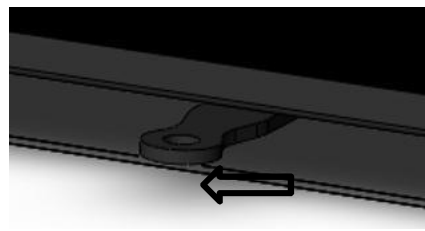

Fig. 6. Closed/Reduced Position
- To shut down or reduce the air supply, slide the control knob to the left (see figure 6).